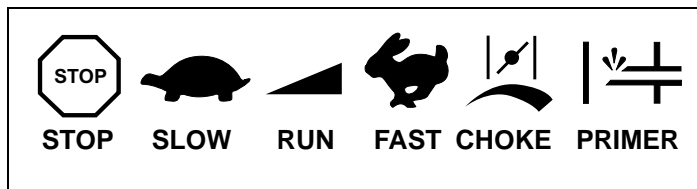

Figure 18. Typical Engine Symbols
*If engine is remotely controlled (see equipment manufacturer's instructions) your equipment may have one or more of the following engine symbols. See Figure 18.*